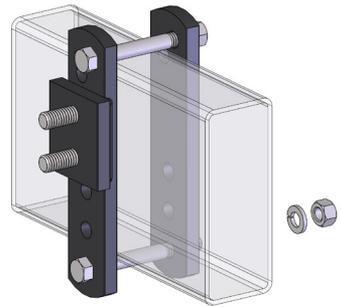

Figure 9a
**Top-mount:** If your coupler is a **top-mount** coupler, place your link plates so that the single hole is above the frame, and the L-bracket studs are toward the top of the frame on the outside. See Figure 9a.